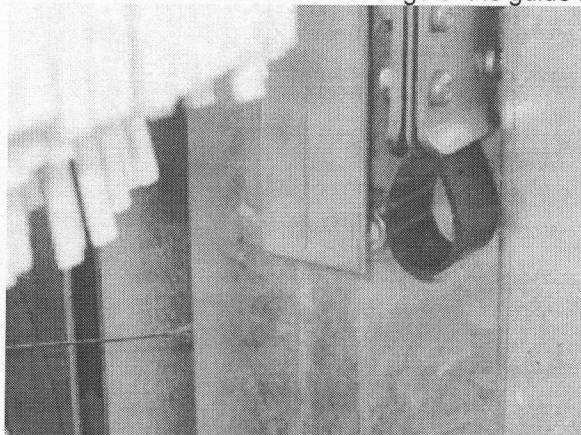

Fig. 057
10. Turn on plant and slowly raise the lifting belts by using the manual functions, until the end of the belt on side 2 is at the lower edge of the guide rails (Fig. 057).